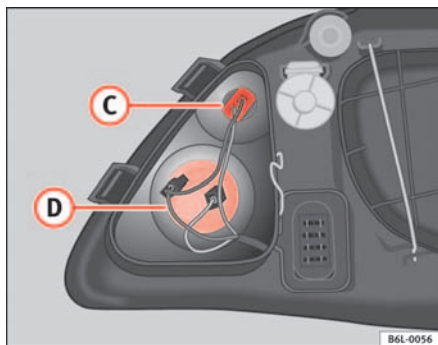

Fig. 149 Indicator lights
- Turn the lamp holder to the left and remove from casing ⇒ fig. 149 ②.